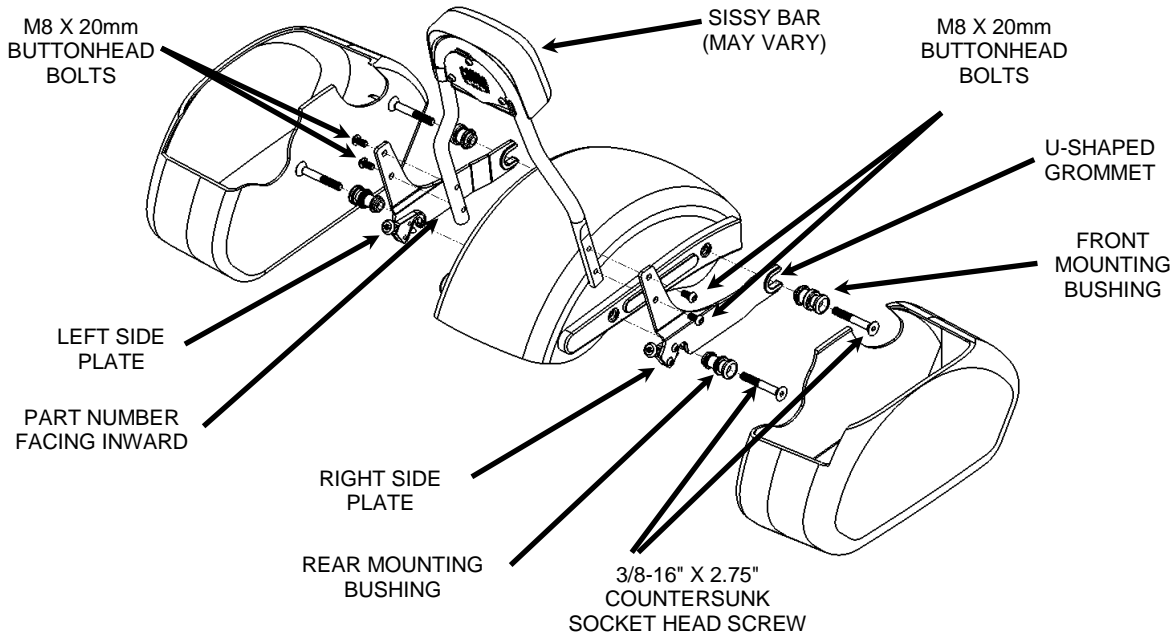

FIGURE 3
6. Install the supplied side plates on to the sissy bar with the four M8 X 20mm button head bolts. Make sure the u-shaped grommets are facing the same direction (forward), as the sissy bar pad and the part numbers are facing inward. See **FIGURE 3**. Snug the bolts but **DO NOT TIGHTEN** at this time.